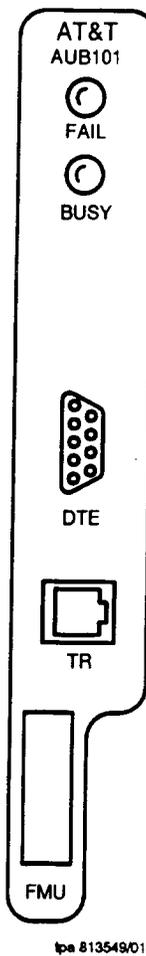

Figure 1 — AUB101 Faceplate Layout and Board Outline
1. Get one **AUB101 FMU** (Figure 1) and inspect for possible damage.